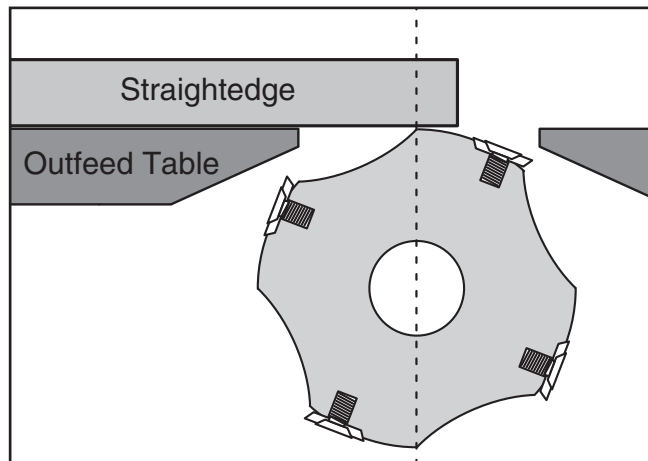

Figure 20. Checking cutterhead parallelism.
14. Using the straightedge and feeler gauge set, inspect the cutterhead parallelism with the outfeed table as shown in **Figure 20**. With the straightedge in position, raise or lower the outfeed table until the cutterhead body (not the carbide insert) just touches the straightedge.